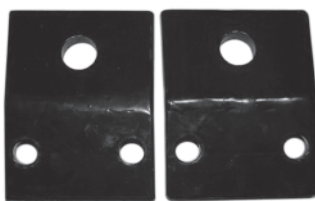

fig.6
5. Attach the two skid shoe holders (fig.6) to the bottom of the lower cross rib on the back of the plow blade.